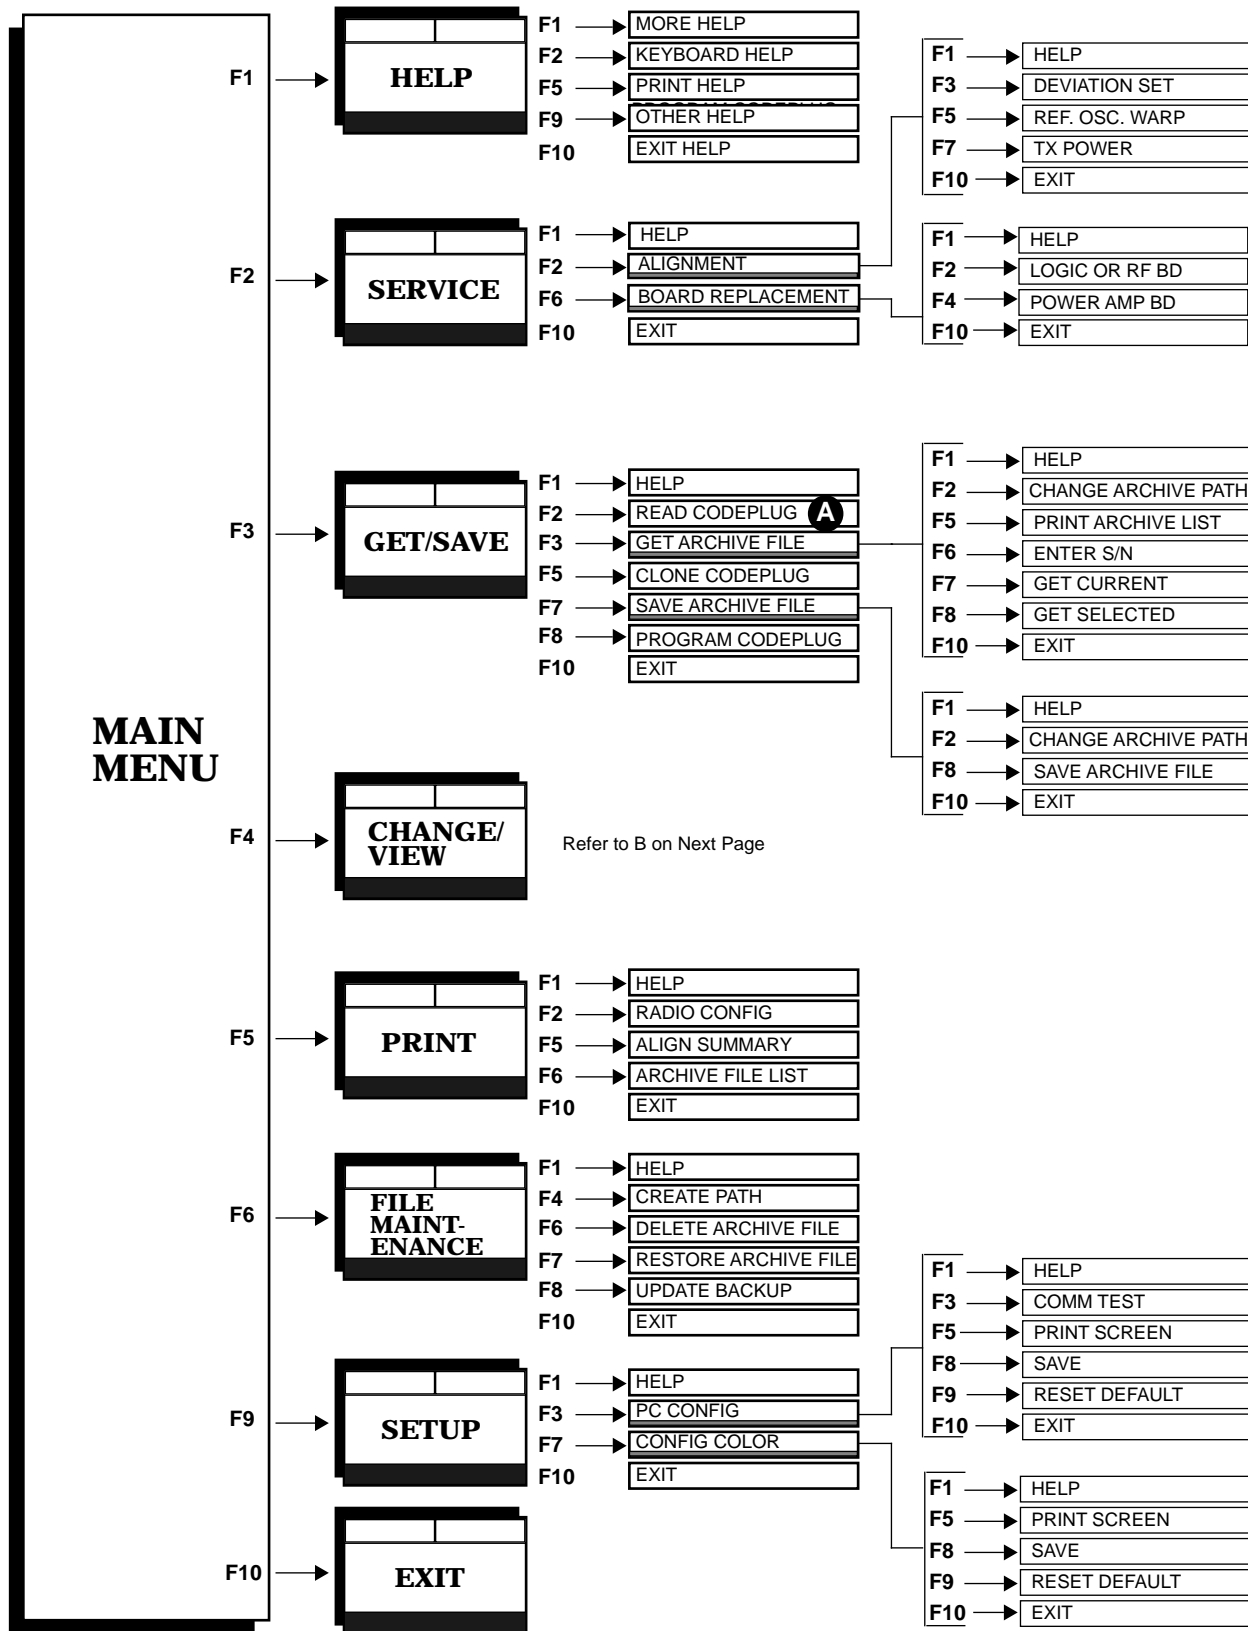
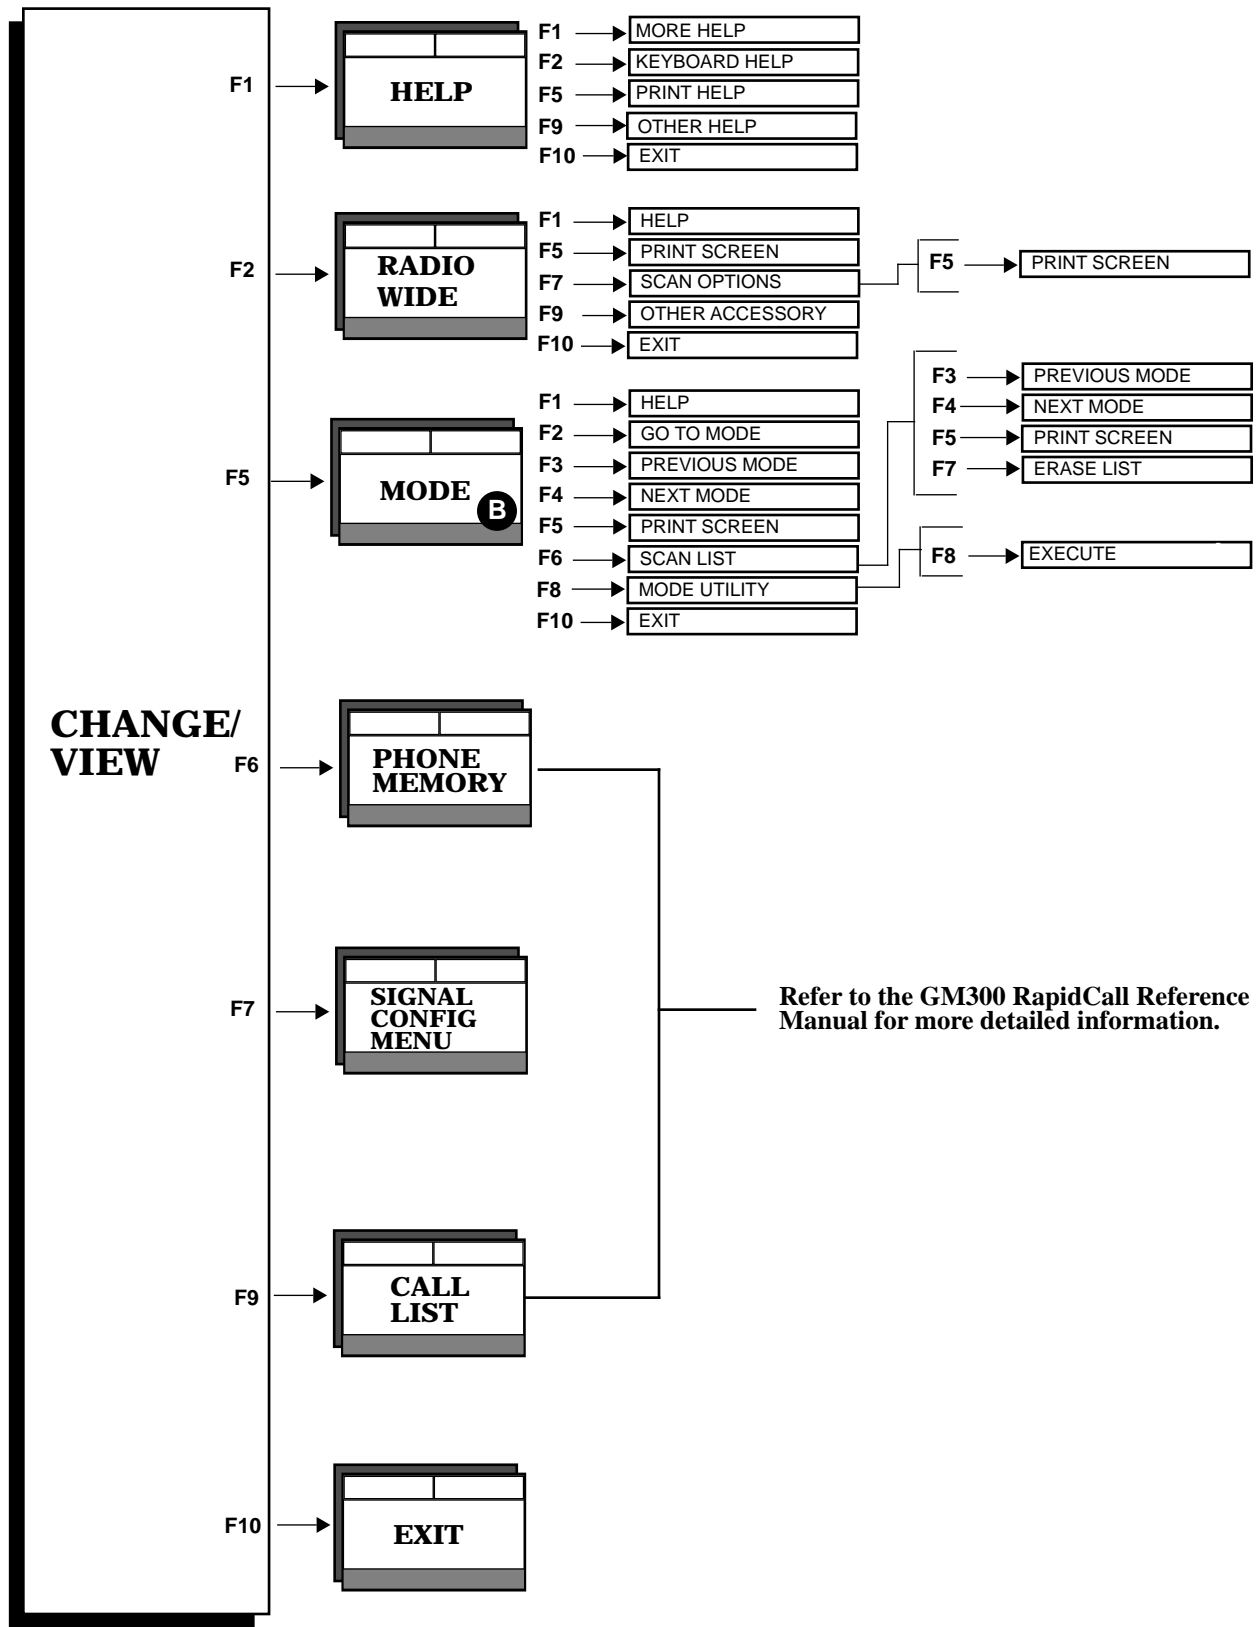

Figure 2-9. RSS Menu Mapping at a Glance
Figure 2-10. Change/View Mapping at a Glance
- 3 Working Area. This area of a menu (not a screen) displays a list of functions (menu choices) you can execute from the current menu. Each menu-item is preceded by an F-number key. Pressing an F-number key advances you to another menu or screen (see Figure 2-9).
The screens are organized in a tree-root fashion as shown in Figure 2-9 on page 2-31. Though this tree-root system is shown sideways in the following picture, it shows how the whole system starts with a main root (MAIN MENU) at the left side and branches outward from the main root. This branching grows deeper as you get closer to the precise screen which contains the feature you want to program into the radio.
Traveling from one RSS menu or screen to another is similar to the way a car must use the road system to drive to the other side of a lake, instead of flying directly as a plane would. To move forward from one screen to another, use one of the F-keys until you’ve reached the menu that contains the other screen you want. To back up, use the F10 key. Each time you press F10 you retreat to the previous screen or menu, moving closer to the MAIN MENU. For example, to move from A to B in Figure 2-9 on page 2-31, from the READ CODEPLUG screen you would press F10 to retreat to the GET/SAVE MENU, then F10 to retreat to the MAIN MENU, then press F4 to advance to the CHANGE/VIEW MENU (Figure 2-10), then finally press F5 to proceed to the MODE CONFIGURATION screen.